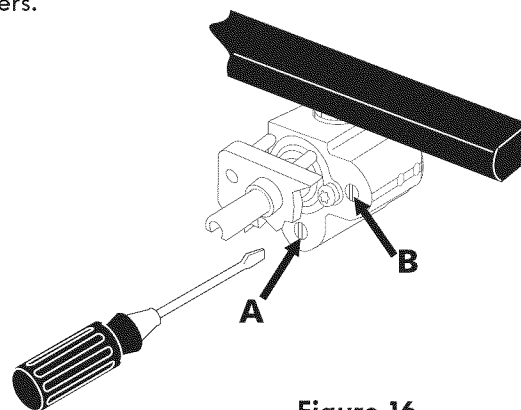

Figure 16
13.5 Adjust the "LOW" Setting of the Dual Valve (Fig. 16)